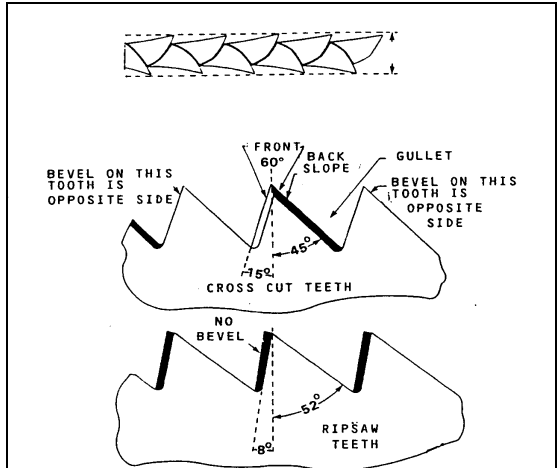
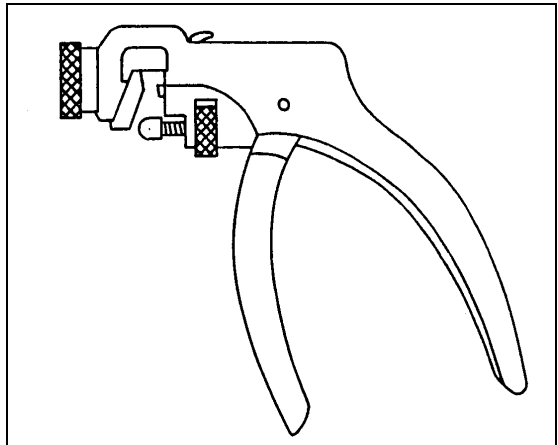

Fig 3-5-6 Difference In Cutting Edge.
Fig 3-5-7 Set Tool
11. Sharpen the saw by using a triangular file and ensure that the proper angle is kept (Fig 3-5-6). Once the saw is sharpened, the set is verified and if needed reset. This is done by using the setting tool resembling pliers (Fig 3-5-7). It has an adjustable tooth which can be adjusted to the proper angle. To set the saw teeth, start at the heel (handle end) and work towards the toe (tip), up one side, then change over and do the other side. Once the job is finished, make a test cut to ensure that it is cutting correctly.